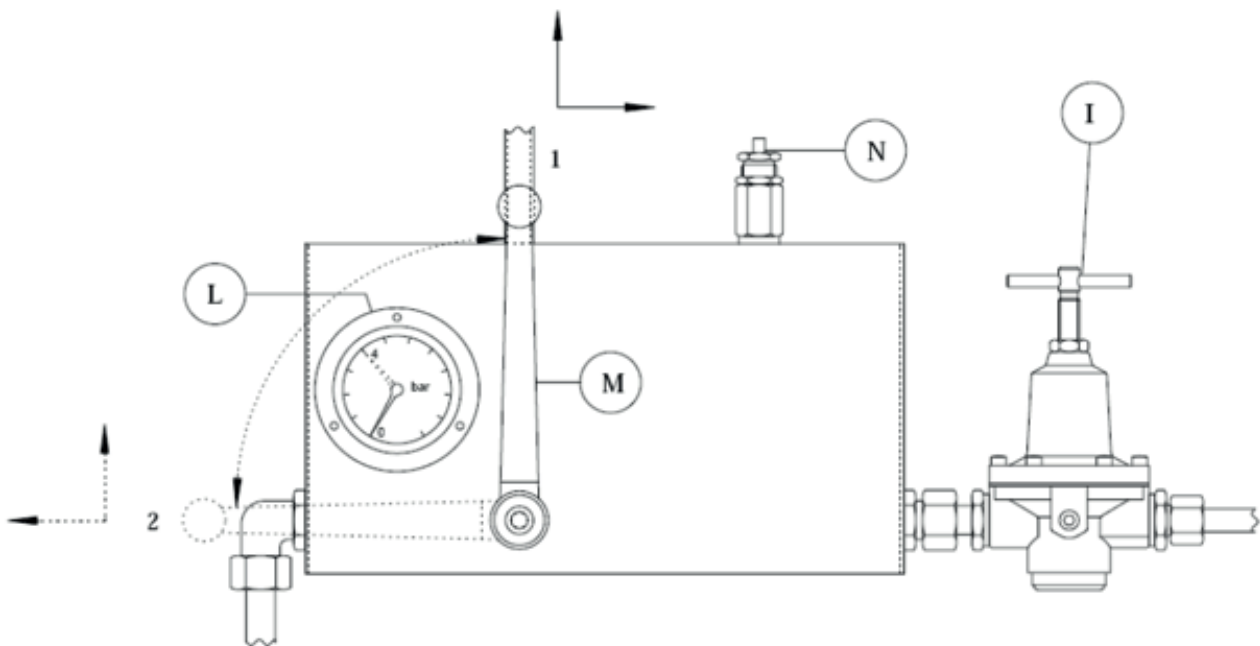

Figure 6: Compressed air control device
- 2) check that the valve (5) is closed;
- 3) check that the valve (7) is closed;
- 4) check that the drain valves (10) are closed;
- 5) turn the lever of the three-way valve until it reaches the “2” position (Figure 6) so as to interrupt the compressed air flow to the tank and allowing water filling;
- 6) open the valve (5);
- 7) the level of water in the tank can be checked through the level display (2) fitted on the tank;
- 8) close the valve (5);
- 9) disconnect the loading hose from the quick coupling connector (6);
- 10) turn the lever of the “M” valve (Figure 6) until it reaches position “1”: the compressed air flow to the tank is activated and the tank gets pressurized (4,5 bars at maximum) so as to release the required quantity of water.